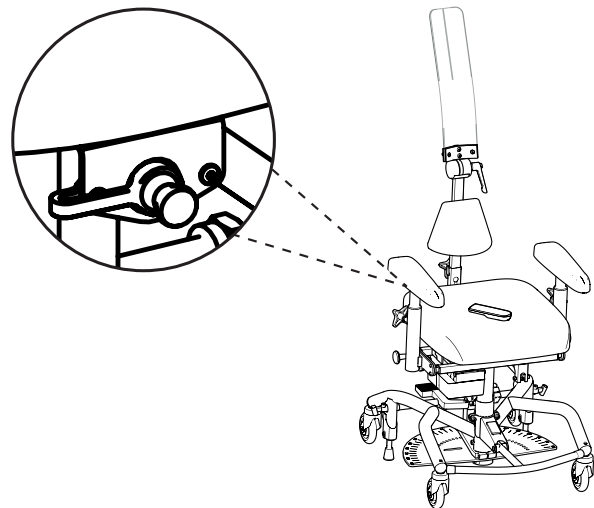

Figure 2.4. Connecting the plug to the charging outlet under the seat.
1. Inset the plug into the charging outlet (see Figure 2.4). The charging outlet is usually placed in the rear edge under the seat.